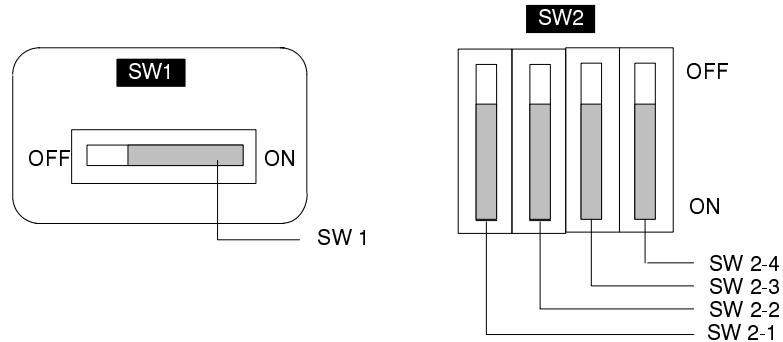

Figure 17
5. After completing this task, return the internal dip switches to their standard or running position (Figure 17).